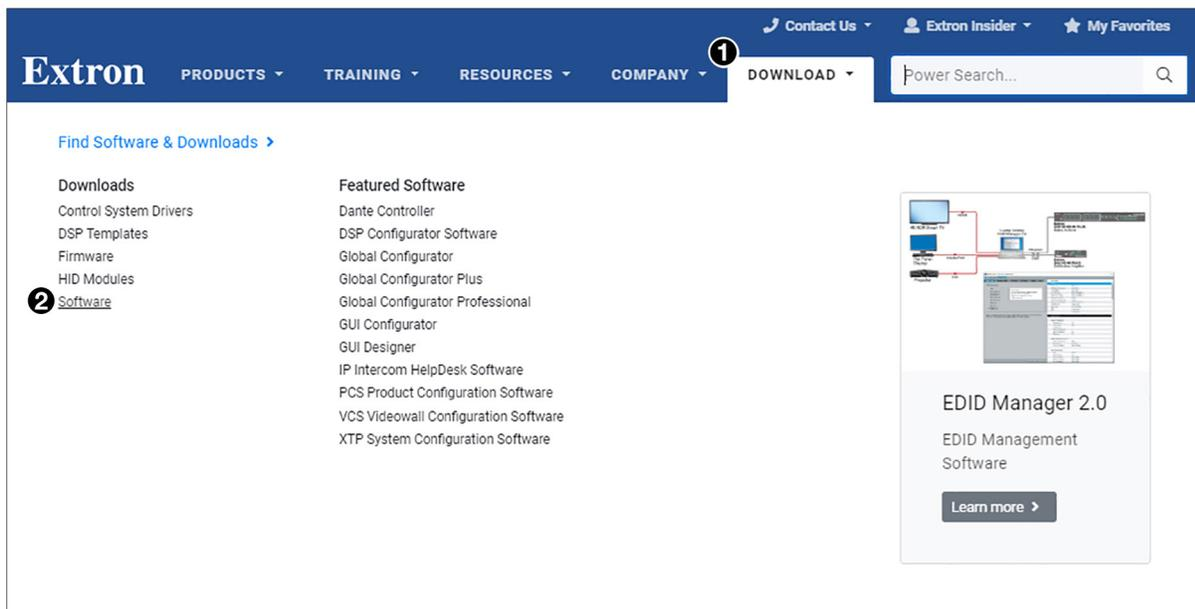

Figure 6. Software Link on the Download Tab
1. Open the Extron web page and select the **Download** tab (see figure 6, ①).